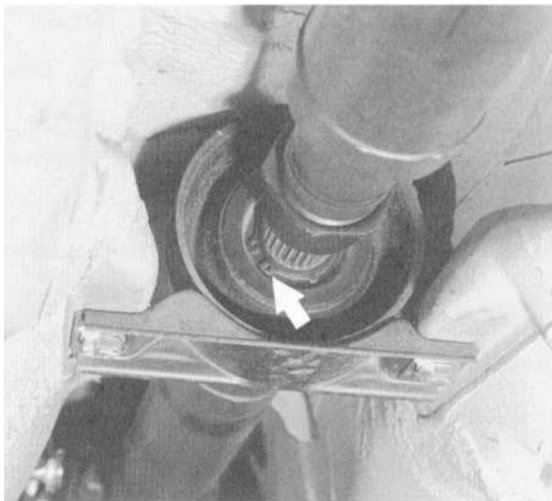

Fig. 12. Center bearing circlip (arrow) to be removed. Driveshaft shown installed.
5. Remove center bearing circlip and dust guard, if applicable. See Fig. 12. Remove bearing from driveshaft using puller.